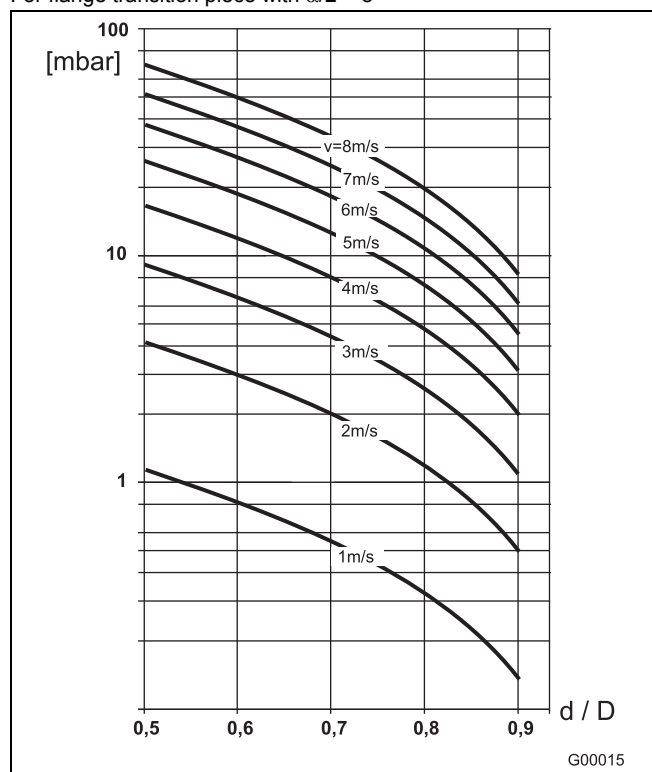

Fig. 33
2. Determine the flow velocity based on the flow range nomograph (Fig. 33).
3. Read the pressure drop on the Y-axis in Fig. 33.